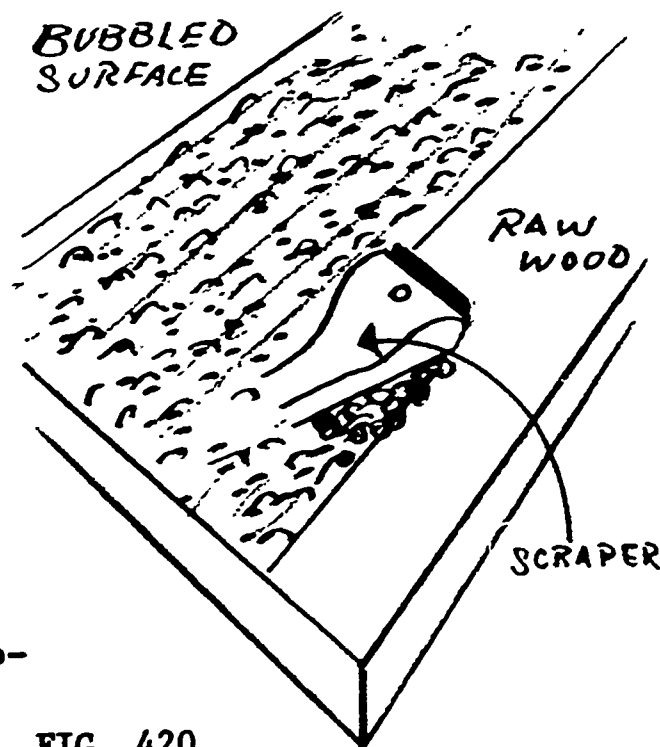

FIG. 420
3. When surface is softened (10-15 min.) scrape old finish off. Use a scraper or putty knife. See figure 420.